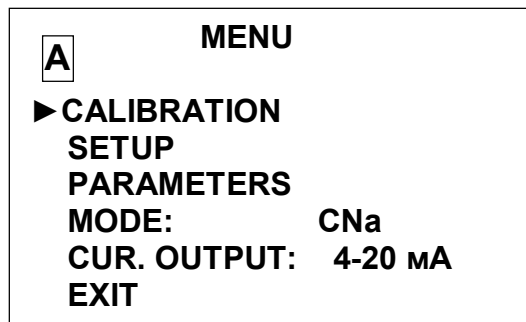

*Fig. 2.10 – Connections of electrodes to AU-1002 amplifier unit for pH-electrode calibration*
Connections of electrodes to AU-1002 amplifier unit for pH-electrode calibration are shown in Fig. 2.10.
**Note** – Connections that do not play any role in pH-electrode calibration are shown in Fig. 2.10 by thinner lines.
- 2 Place electrodes and temperature sensor, as shown in Fig. 2.10, in the first fresh buffer solution and keep electrodes in the buffer solution for 10 min.